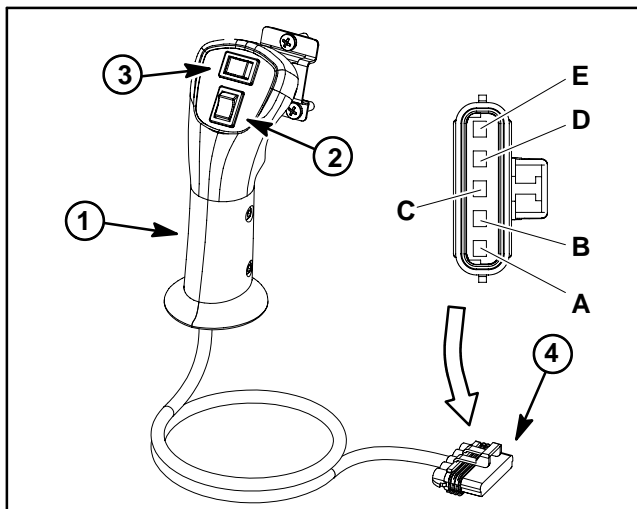

Figure 8
The remote control handle includes two (2) switches: the engine stop switch and the lift/offset switch (Fig. 8).
2. The switches and remote control handle wire harness can be checked by unplugging the handle wire harness from the main wire harness of the ProCore Processor. Using a Multimeter set to ohms, test continuity of the switches and remote handle wire harness as follows (Fig. 8):